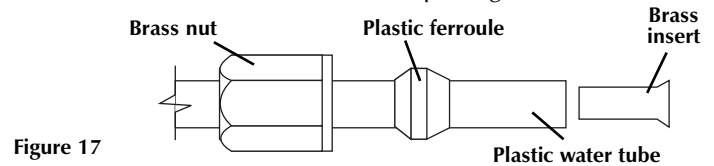

Figure 17
2. Prepare the end (fig 17) of the 1/4" tubing for water connection to the humidifier (All required hardware supplied in the Saddle Valve Kit in the installation package).